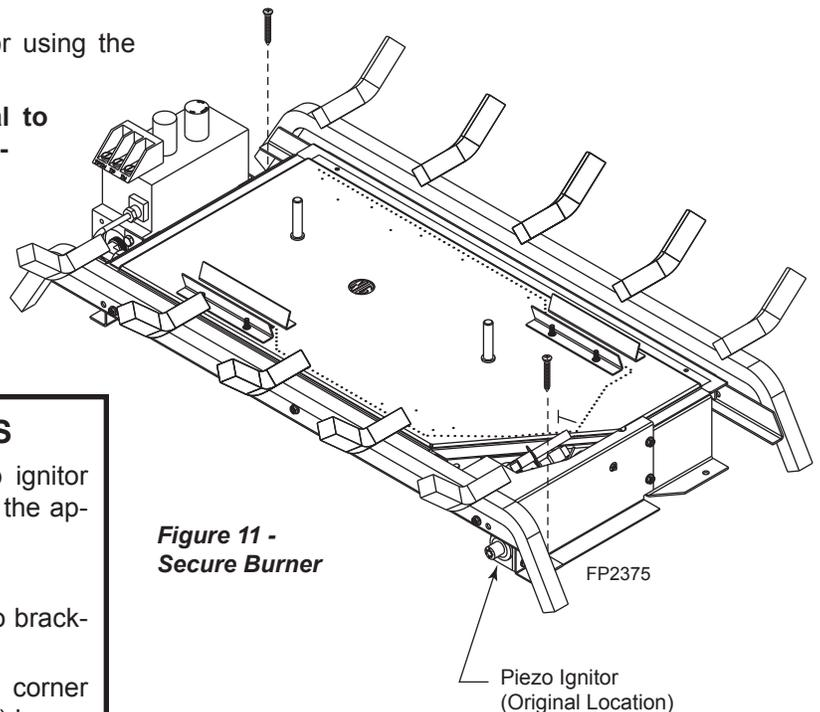

Figure 11 - Secure Burner
2. Anchor holes are located on the right and left sides of the unit. After centering the grate correctly, mark the hole locations on the fireplace/firebox floor. Drill two (2) 5/32" diameter holes approximately 1 1/2" deep.
3. Anchor the unit to the fireplace/firebox floor using the screws provided. *Figure 11*